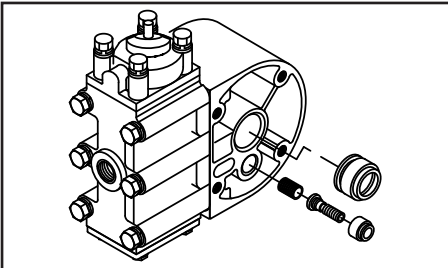

Figure 22
- Draw out the throat bearing (See Figure 22).
- Pilot valve assembly (See Figure 22)